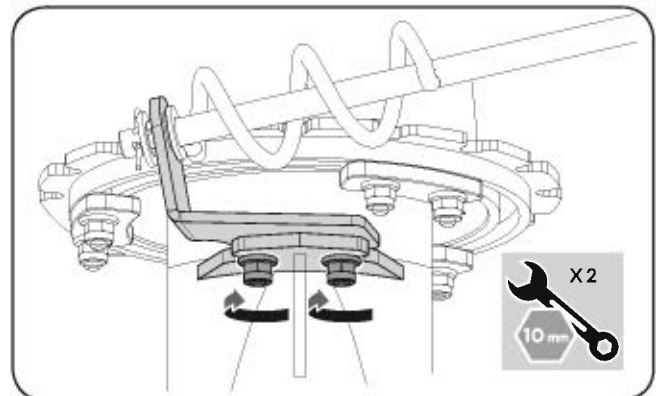

Figure 9b
- Make sure the spiral at the bottom is fully engaging with the chute crank flange and tighten the two bolts on the chute bracket. (See **Figure 9b**)